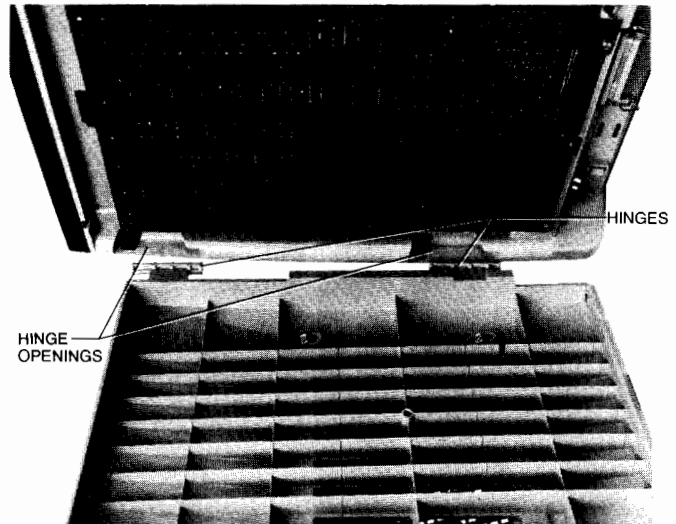

Figure 2-4. Mating the Hinges to the Hinge Openings
1. Hold the mainframe above the support in a tilted position with the left side up to clear the top prop, and the right side down so that the fixed hinges on the right side of the support enter the hinge openings (figure 2-4) along the right lower edge of the mainframe. Then slide the mainframe rearward past the detents approximately  $\frac{1}{4}$ -inch to lock the hinges.